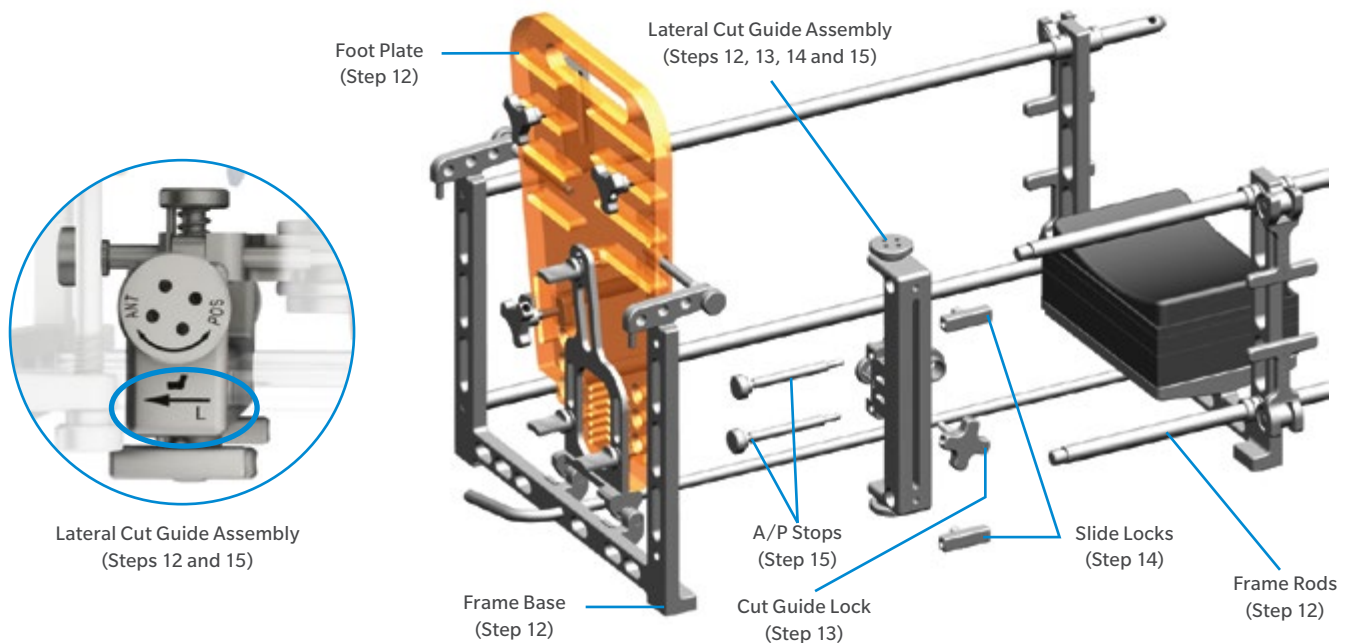

Fig. 113
Unthread the two Frame Rods that will be on the lateral side of the patient's foot, and slide the Lateral Cut Guide Assembly onto the Frame Rods (Fig. 113). Then rethread the two Frame Rods back into the Frame Base.
- Ensure that the appropriate "L" or "R" indication is facing up and the arrow is pointed toward the Foot Plate (Fig. 113 inset).
Insert and thread the Cut Guide Lock through the slot in the Lateral Cut Guide Assembly (Fig. 113).
Thread 2 Slide Locks into the bottom and top holes of the Lateral Cut Guide Assembly (Fig. 113).
Thread the two A/P Stops into the two distal holes on the ankle side of the Lateral Cut Guide Assembly until they appear through the opposite end of the holes (Fig. 113).